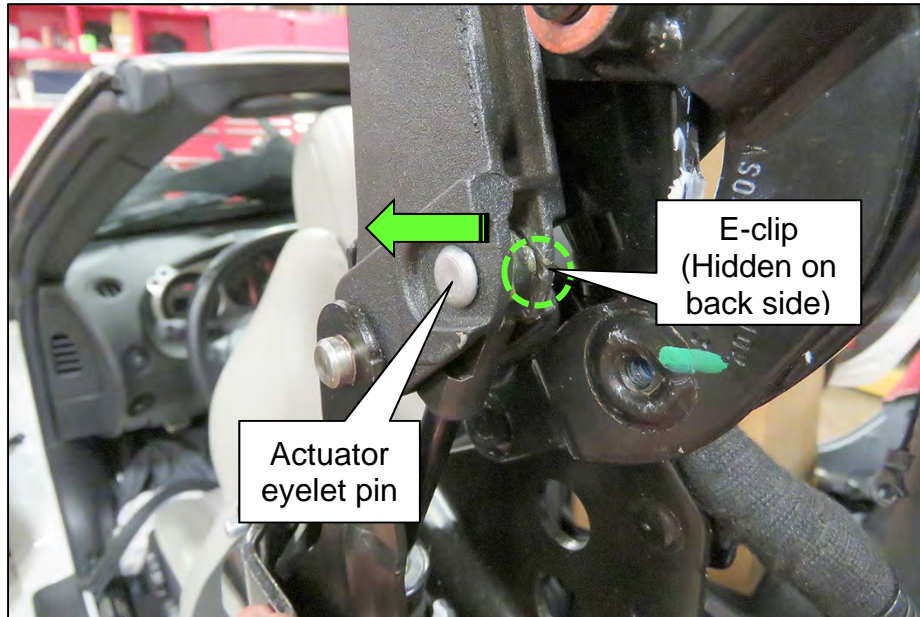

Figure 173
185. Remove the E-clip from the actuator eyelet pin, and then remove the actuator eyelet pin by sliding it out (Figure 173).
- E-clip hidden in Figure 173.